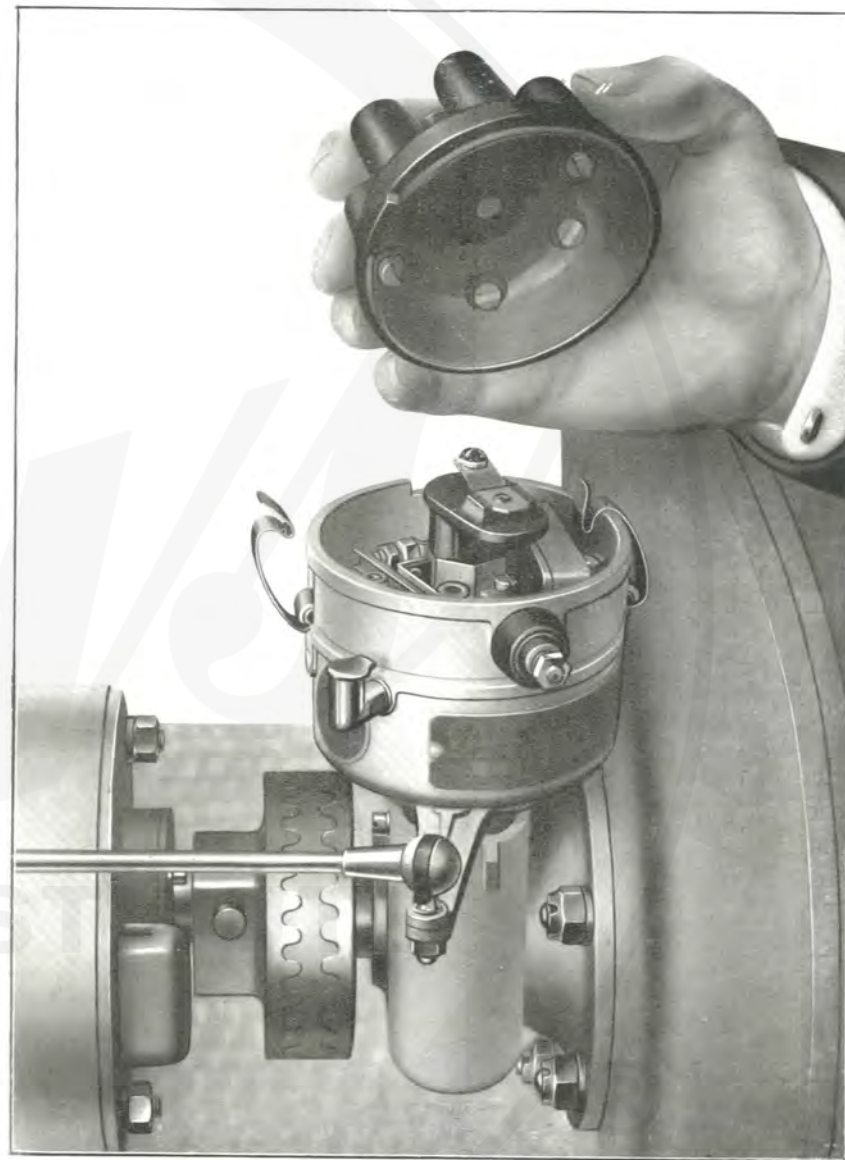

Fig. 20.
b) The sparking plug gap is to be kept at 0.4 mm. (0.015"). Make sure that all wires are well and tightly connected. See also that the platinum points on the distributor begin to part when the "rotor" comes in front of one of the terminals (fig. 20, page 49).